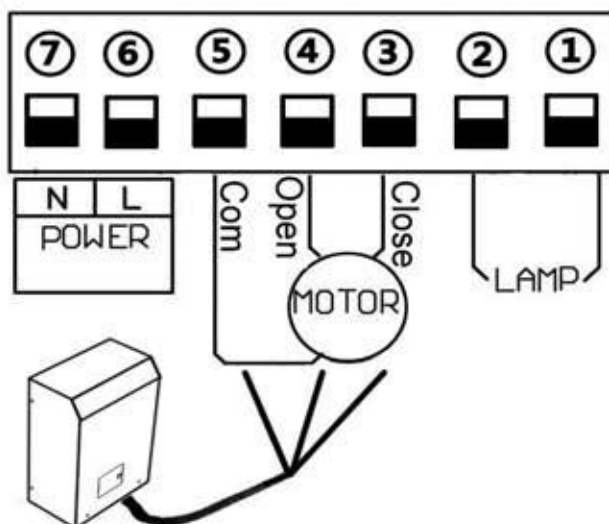

Fig 9
6.2. Connect to sliding gate motor Fig 9